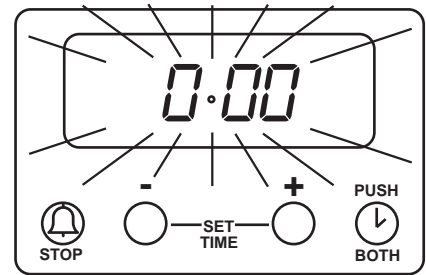
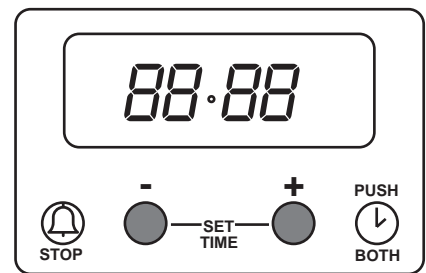
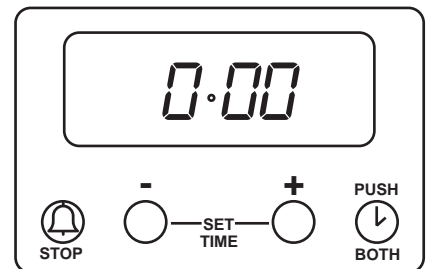

Fig. 2
Fig. 3
Fig. 4
Press buttons (1) and (2) together. The display will read **88.88**. See Fig. 2. Release buttons, **0.00** will appear in the display as Fig. 3. **Within 5 seconds** press button (2), **12.00** will show in the display as Fig. 4.